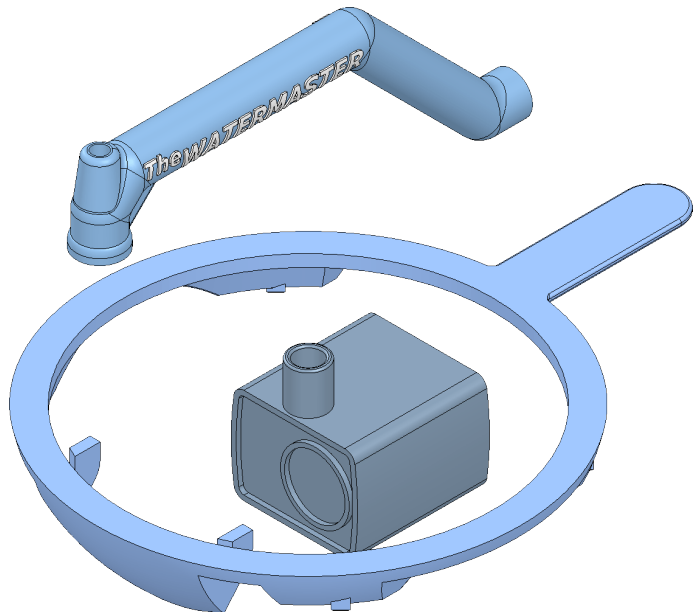

Fig. 10
Step 3. Click to place Out Pipe, Fig. 10.